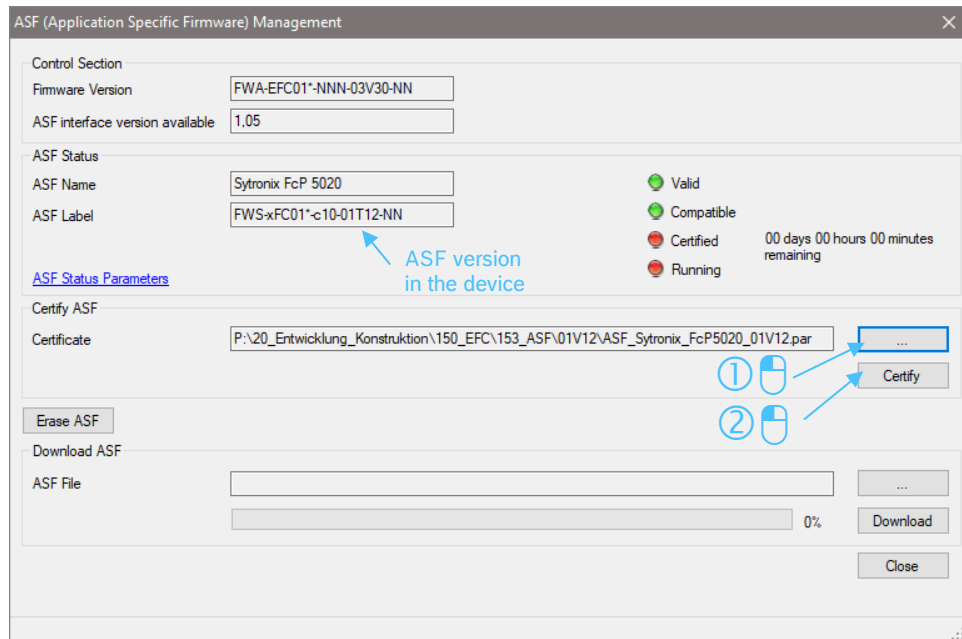

Abb. 16: Licensing ASF window
- Click on "... " to navigate to an ASF license file (*.par) and then click on "Certify" to certify the version (see Abb. 16: Licensing ASF window).